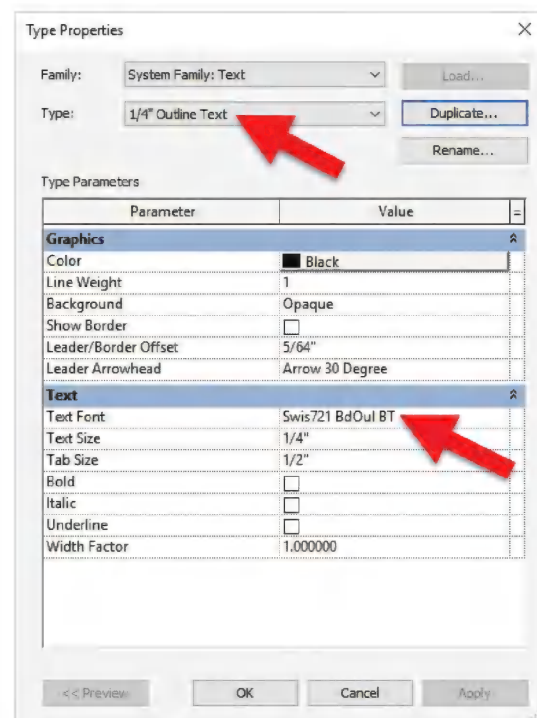

FIGURE 7-4.4 New text properties
9. Next, make the following adjustments to the *Type Properties* (Figure 7-4.4):